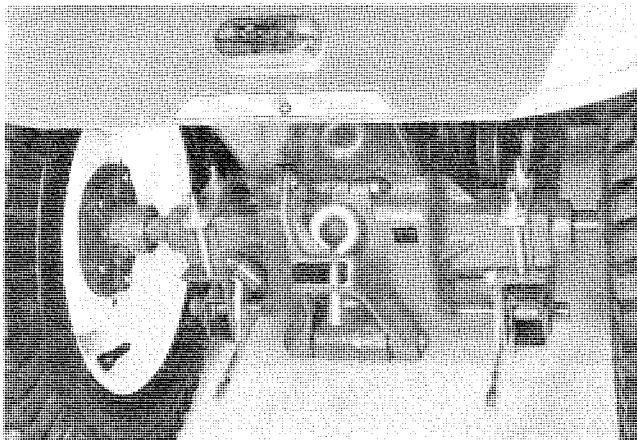

FIG. 1
1. Install the mounting bracket assembly (see Fig. 1). The bracket should be centered on the axle housing. Secure in place with the links and $\frac{3}{8}$ -16 x $3\frac{1}{2}$ " carriage bolts and $\frac{3}{8}$ -16 elastic stop nuts.
Angle Spacers, Part No. 7713 (Item #14 on the exploded view drawing) are used to fill the gap between the bolts and the axle housing. The spacers are not used on the Wheel-A-Matic (Automatic Transmission) type tractors. See Fig. 1. The frame cross shaft fits in the end hole, as shown on all tractors that have a $45\frac{1}{2}$ " wheel base and the Commando 800. All others use the second hole.
lever on the frame assembly is up and out of the way before the frame is locked in position. See Fig. 1.